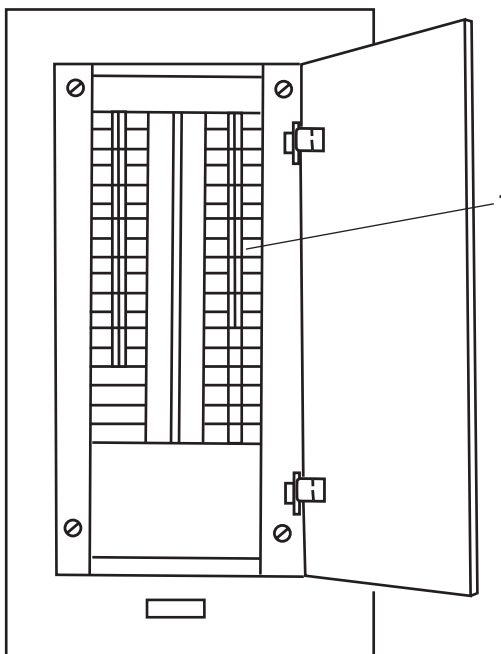

Figure 20. 120V Emergency Distribution Panel No. 1
1. Set to ON the FIRE DETECTION SYSTEM. circuit breaker (figure 20, item 1) in 120V emergency distribution panel No. 1.